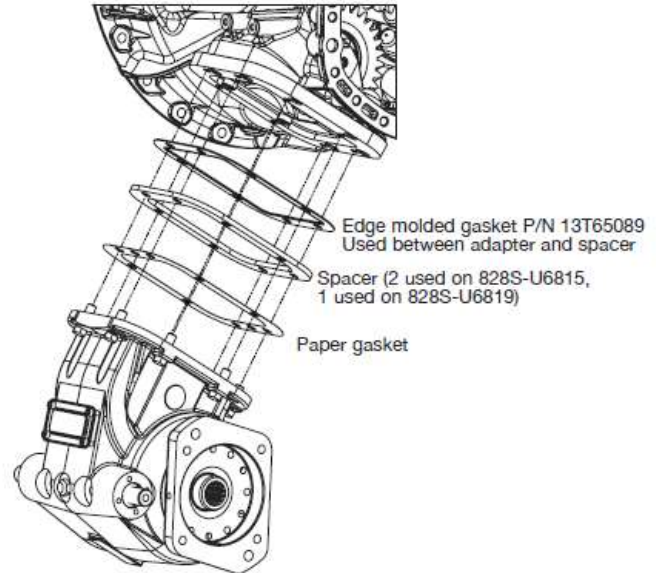

Figure 35: Installation of the Muncie PTO to the PTO Adapter and transmission
- Measure the backlash between the adapter and transmission gears. Correct backlash should be 0.006"-0.012" (0.15mm – 0.30mm). Adjust as necessary using a second gasket. A thinner gasket, one that measures 0.010" (0.25mm) thick, is available and is shown in Figure 35 above. Additional gaskets are available through your Muncie Power parts provider.